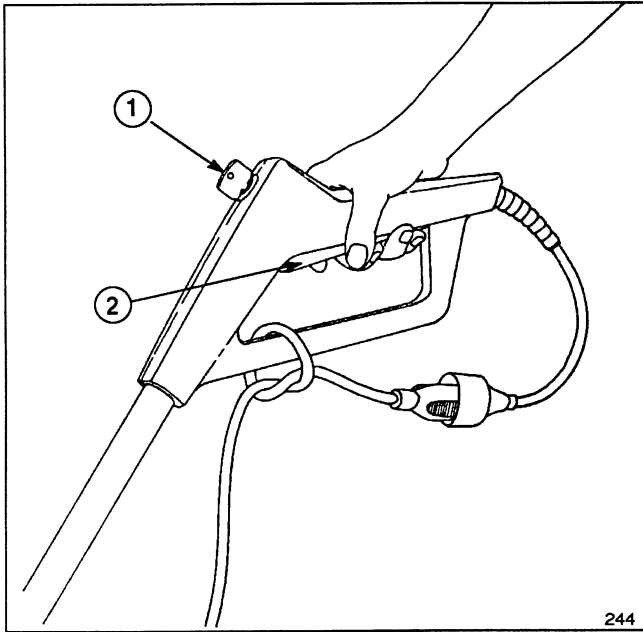

Figure 6
Power Shovel cord; refer to page 6, Figure 6 for proper procedures.
1. Tie extension cord to the lower handle of control grip (Fig. 6) before connecting to the Power Shovel cord. This helps prevent the separation of the cords during operation.
2. Plug the extension cord into a wall outlet and insert key into hole located on the front side of the control grip (Fig. 6).
To start the Power Shovel, install the key and squeeze the switch bar. To stop, release the switch bar (Fig. 6).